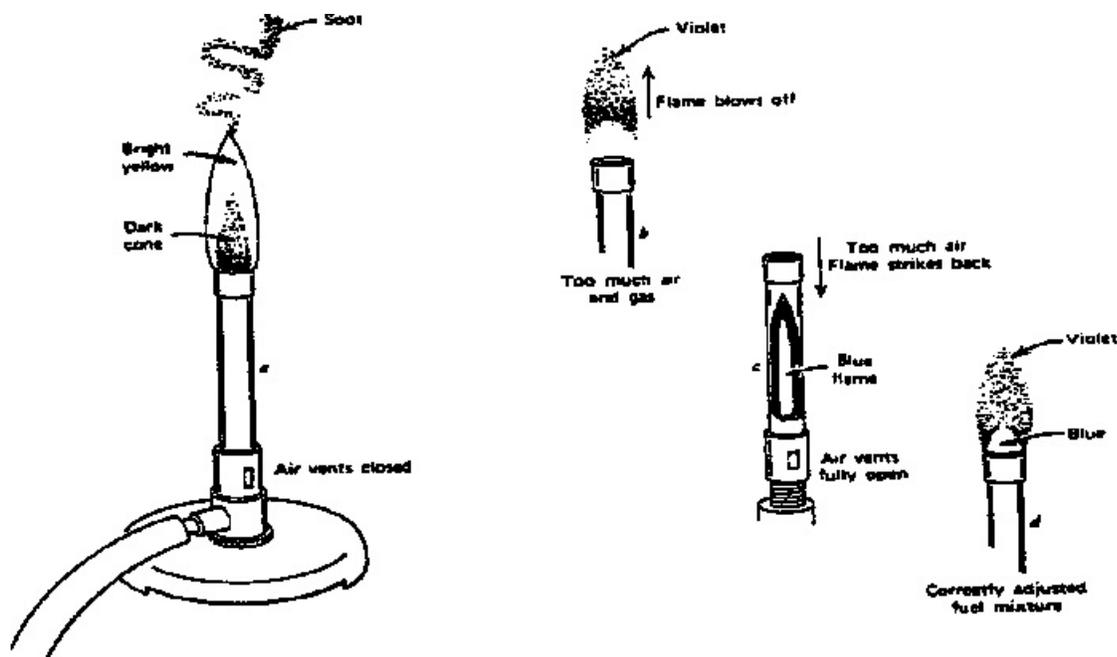

Figure 1. The Bunsen burner. Fuel and air mix in the vertical tube. A proper fuel-air mixture is important for maximum heat production by the burner.
Air is approximately 20% oxygen. The Bunsen burner mixes air with the fuel gas in appropriate proportions for the fuel to react completely. If the flame is fuel-rich, it is bright yellow and sooty. The bright yellow color is caused by hot, unburned carbon particles. An air or oxygen-rich flame is blue and unstable. It tends to strike back down inside the mixing tube and burn at the gas jet. A correctly adjusted burner has a violet flame that surrounds a small blue cone (see Figure 1). In part I of the experiment, you will explore the temperature gradients in the flame of a Bunsen burner.
1. Connect your Bunsen burner to the gas valve, turn on the fuel supply, and light the burner by holding a match near its top. It is easier to light the burner if the air supply is restricted, causing a fuel-rich mixture. After the burner is lit, adjust the air and gas controls until a violet flame with a blue interior cone results (see Figure 1).
Figure 1. Output voltages from a "type K" thermocouple at 10 degree increments. To use the table, find the value closest to your thermocouple reading and add the column heading to the row heading to obtain the temperature to the nearest 10 degrees Celsius.